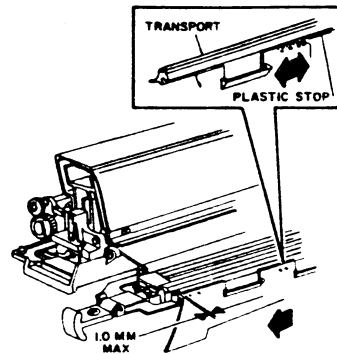

Figure 1. Check/Adjustment of the Feed Roll Shroud
2. CHECK THE ENDPLAY OF THE FEED ROLL SHROUD (FIGURE 1).
PUT THE PLASTIC STOP INTO SLOT IN THE PREFUSER TRANSPORT TO ALLOW MAXIMUM ENDPLAY OF 1.0 mm (FIGURE 1).